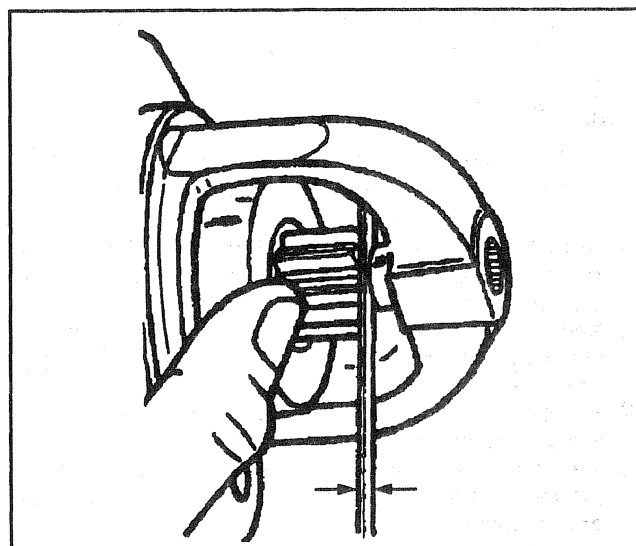

Figure 12—Measuring Pinion Clearance
5. Measure the distance between pinion and pinion stop collar (Figure 12).